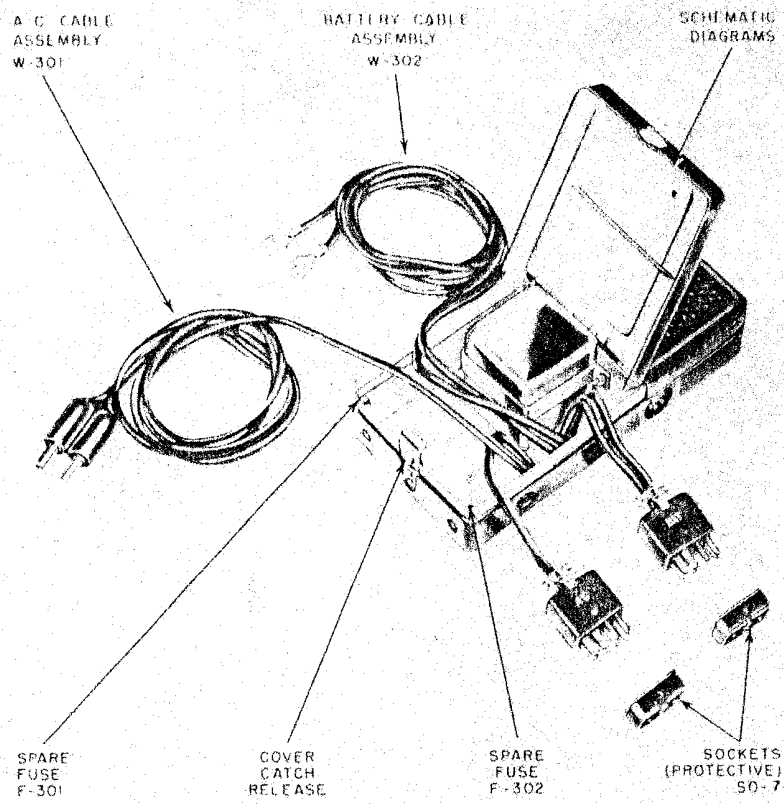

Figure 2. Filter-Accessory Unit RA-6 opened, showing accessories.
- (1) Filters B+
- (2) Regulates receiver B+
- (3) Switches B+ to transmitter and to receiver
- (4) Provides storage space for accessories and power cables. See Figure 2.